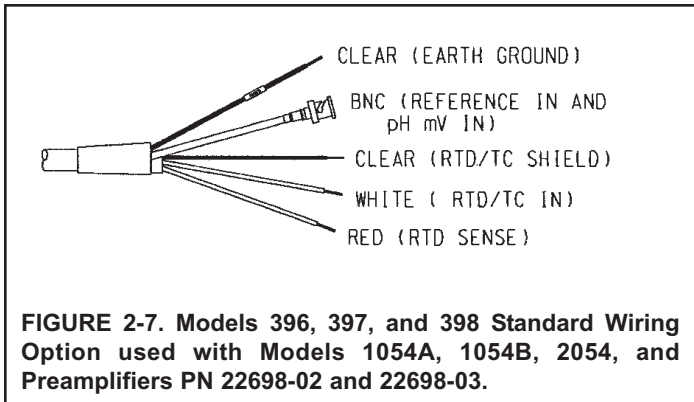

FIGURE 2-7. Models 396, 397, and 398 Standard Wiring Option used with Models 1054A, 1054B, 2054, and Preamplifiers PN 22698-02 and 22698-03.
The Models 396, 396VP, 397, 398, and 398VP are for use with a remote preamplifier. Each sensor comes with either a special 15 ft low noise coax cable or a Variopol (VP) connector, which is used with a mating Variopol cable. The cable should be handled carefully, and kept dry and free of corrosive chemicals at all times. Extreme care should be used to prevent the cable from being twisted, damaged or scraped by rough, sharp edges or surfaces. Please refer to Figures 2-7 thru 2-18 for wiring Models 396, 397, and 398.